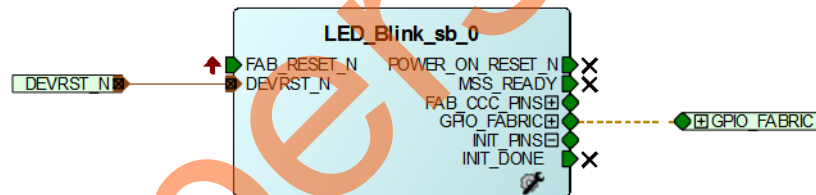

Figure 12 • LED_Blink Design
2. Click **File > Save**. The LED_Blink design is displayed, as shown in Figure 12.